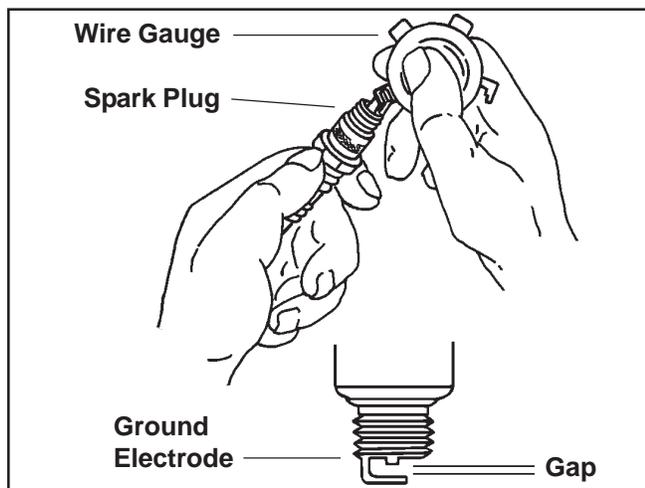

Figure 11. Servicing Spark Plug.
3. Check the gap using a wire feeler gauge. Adjust the gap by carefully bending the ground electrode. See Figure 11. Gap plugs to 1.02 mm (0.040 in.).